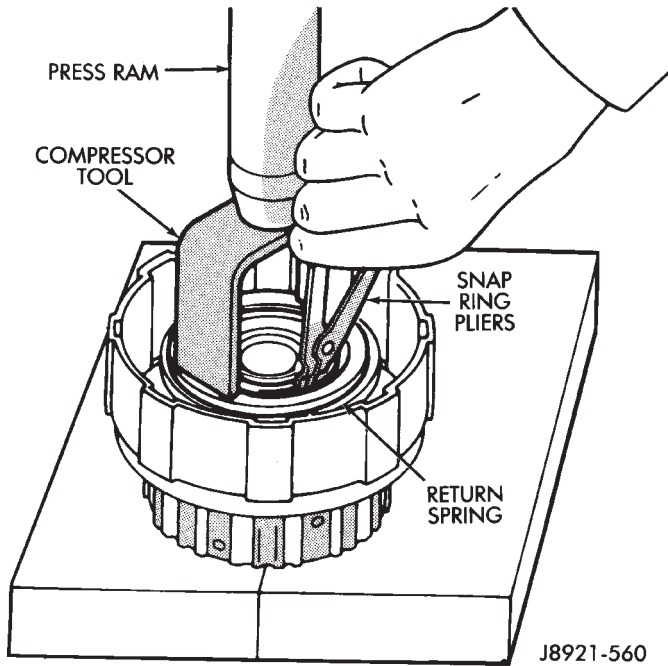
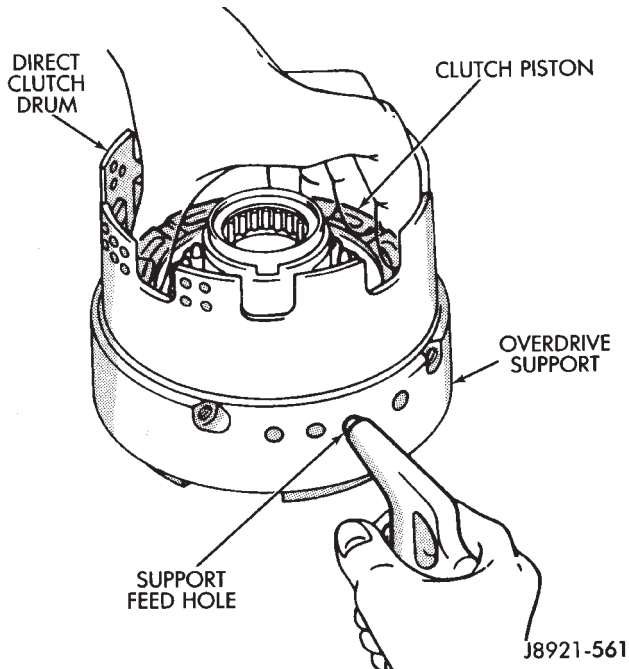

Fig. 231 Removing Piston Return Spring
Fig. 232 Removing Direct Clutch Piston
(9) Compress clutch piston return springs with tool 7538 and remove clutch piston snap ring (Fig. 231).
(10) Remove compressor tool and return spring.
(11) Remove clutch piston. Remount clutch on overdrive support (Fig. 232). Apply compressed air
(2) Install clutch piston in drum and install return springs on piston.
(3) Compress piston return springs with Tool 7538 and install snap ring (Fig. 231). Be sure snap ring end gap is not aligned with spring retainer tab.